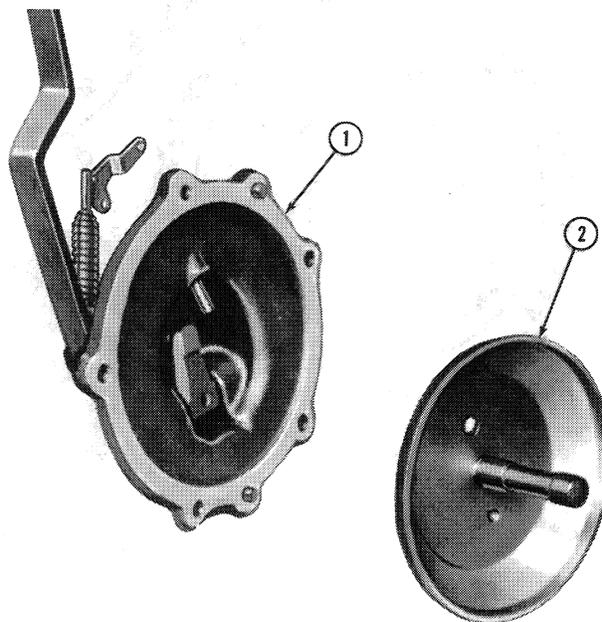

Figure 32
2. Remove the governor housing from the engine front cover. Discard the old gasket, Figure 32.